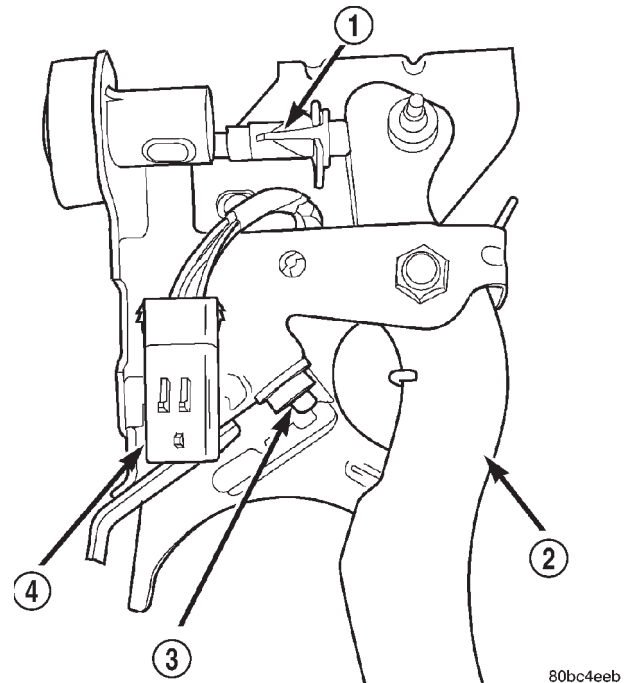

Fig. 9 Interlock and Upstop Switch Mounting Locations
(1) Disconnect and isolate battery negative cable.
(2) Remove instrument panel assembly. Refer to Group 8E, Instrument Panel and Systems for the proper procedure.
(3) Disconnect the clutch interlock/upstop switch connector (Fig. 9).
(1) Install switches into the pedal bracket assembly as shown in (Fig. 9). Route harness as was prior to removal.
(2) Connect interlock/upstop switch connector.
(3) Install instrument panel assembly. Refer to Group 8E, Instrument Panel and Systems for the proper procedure.
(4) Connect battery negative cable.
(5) Verify proper switch operation. Refer to Description and Operation in this Group.